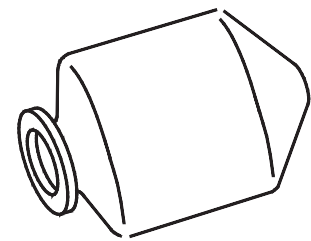

Figure 26 – Force all Air Out of Bladder
- a. Place bladder on clean surface with opening to one end and flatten to force air out. Pull ends out flat (see Figure 26).